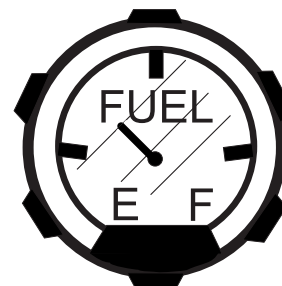

Figure 6. Fuel Gauge
1. Determine if the engine fuel is low (Figure 6). If fuel level is low, remove the fuel filler cap and fill with unleaded gasoline.